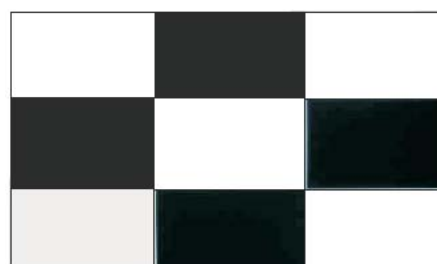

Fig. 3
2.2.1 At factory mode apply 1280X720 @60Hz mode with 32 gray pattern. Set smart picture at "Normal" , and Brightness to 50% and Contrast to 50%(showns as Fig.3).